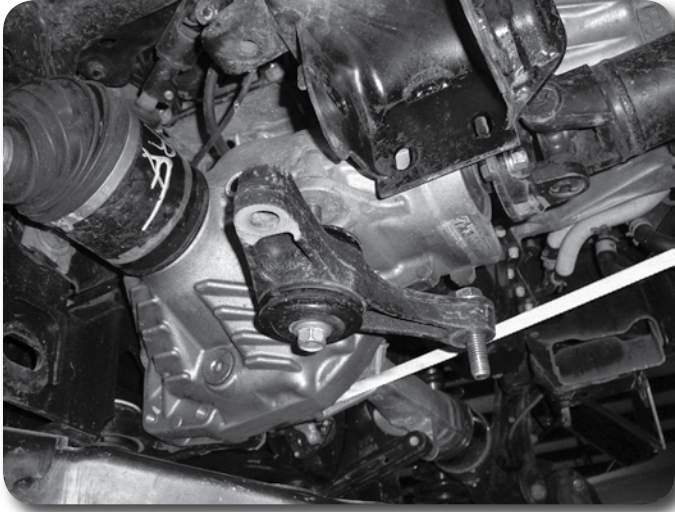

Figure 31
38. Loosely install the modified factory rear differential mount to the differential with the original bolt **Figure 31**. The mount should be positioned as it was when removed with the captive stud to the inside and pointing down. Leave the bolt loose so the bracket can move freely.